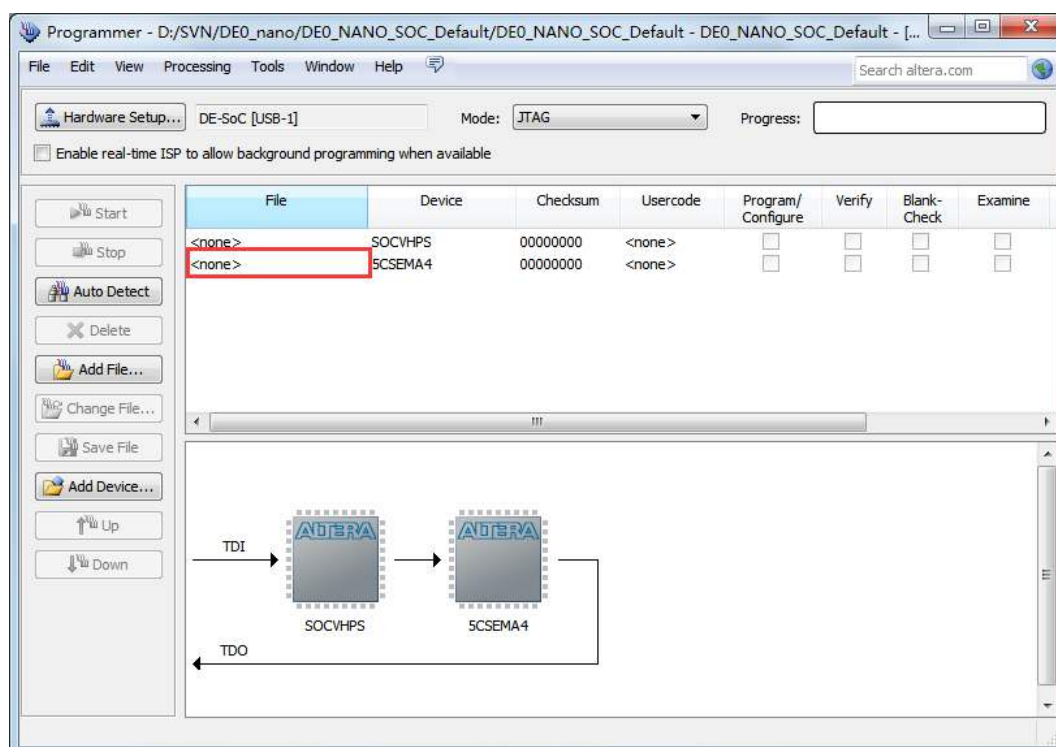

Figure 7-7 Two devices are detected in the Quartus II Programmer
3. Click **Auto Detect** and then select the correct device(5CSEMA4). Both FPGA device and HPS should be detected, as shown in **Figure 7-7**.
4. Double click the red rectangle region shown in **Figure 7-7** and the **Select New Programming File** page will appear. Select the .jic file to be programmed.
3. Click **Auto Detect**, and then select correct device, both FPGA device and HPS will be detected. (See **Figure 7-7**)
4. Double click the red rectangle region shown in **Figure 7-7**, and the **Select New Programming File** page will appear. Select the correct .jic file.